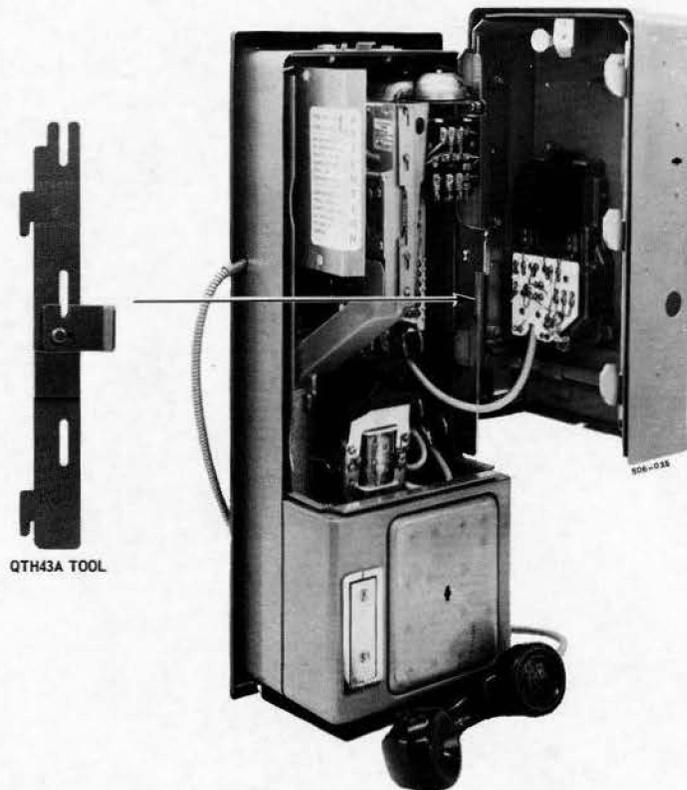

Fig. 1 – QSD400A1 or QSD2400A1 Coin Telephone Set Showing Cover Unit Assembly Removed and Supported by QTH43A Tool
1.04 For maintenance and testing purposes, the cover unit can be removed and supported with the QTH43A tool as shown in Fig. 1. The use of the QTH43A tool permits maintenance and testing functions to be conducted with the coin telephone set fully operational.
QTH43A Tool	Used to support the cover unit assembly on the housing unit assembly as shown in Fig. 1.